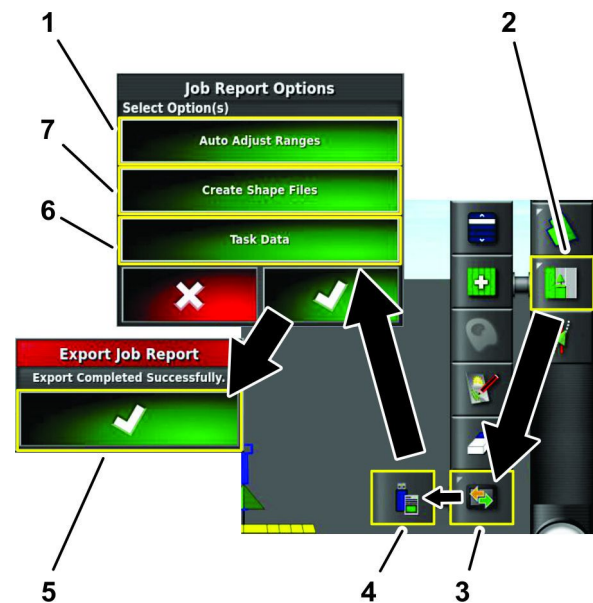

Figure 29
1. Press the Job Menu icon (Figure 29).
2. Press the Data Exchange Menu icon (Figure 29).
3. Press the Export Job Report to USB icon (Figure 29).
5. Press the CREATE SHAPE FILES icon (Figure 29).
6. In the job reports options dialog box, the confirm icon (Figure 29).
7. In the export job reports dialog box, the confirm icon (Figure 29).